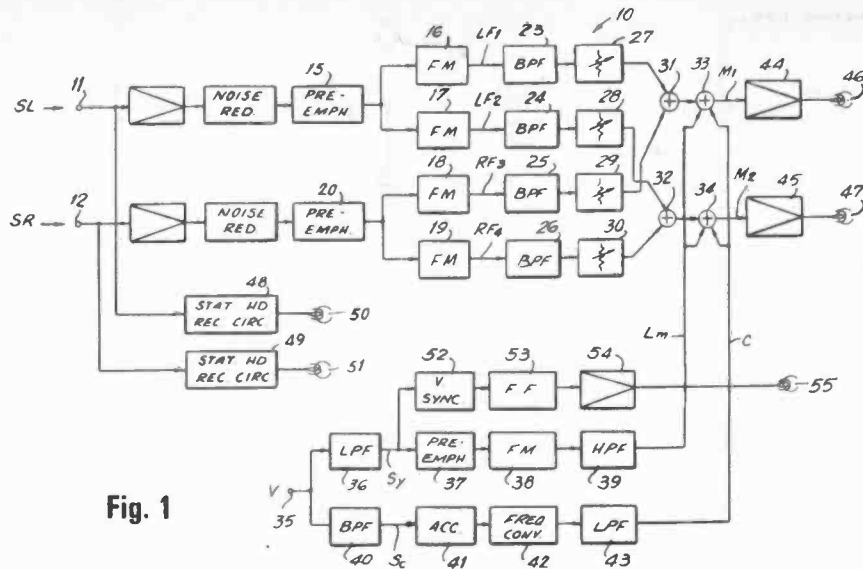
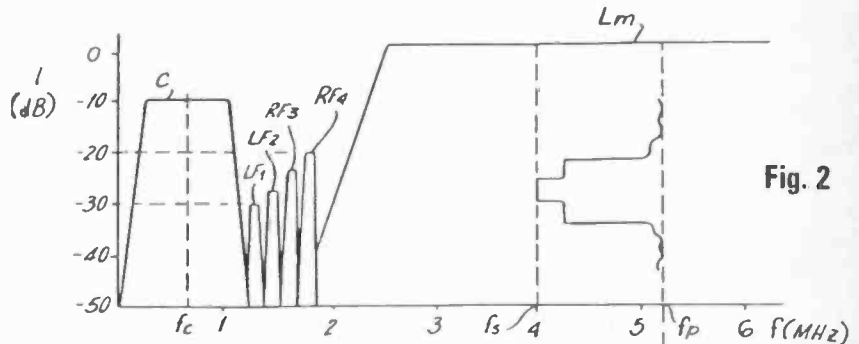

Fig. 1
Fig. 2
Fig. 1 shows the schematic circuit. Left channel audio enters at 11, and right channel audio at 12. The right channel frequency modulates a carrier of frequency F1 (1.325MHz) at 16, and simultaneously modulates a second carrier at frequency F2 (1.475MHz) at 17. The right hand channel modulates carrier F3 (1.625MHz) at 18 and carrier F4 (1.775MHz) at 19. One left channel signal (LF1) and one right channel signal (RF3) are combined at 31, mixed with the luminance (LM) and chrominance (C) video signals at 33 and sent to helical scan recording head 46. The other left signal LF2, and the other right signal, RF4, are combined at 32, mixed with chrominance and luminance at 34 and sent to recording head 47. The frequency spectrum is shown in Fig. 2.